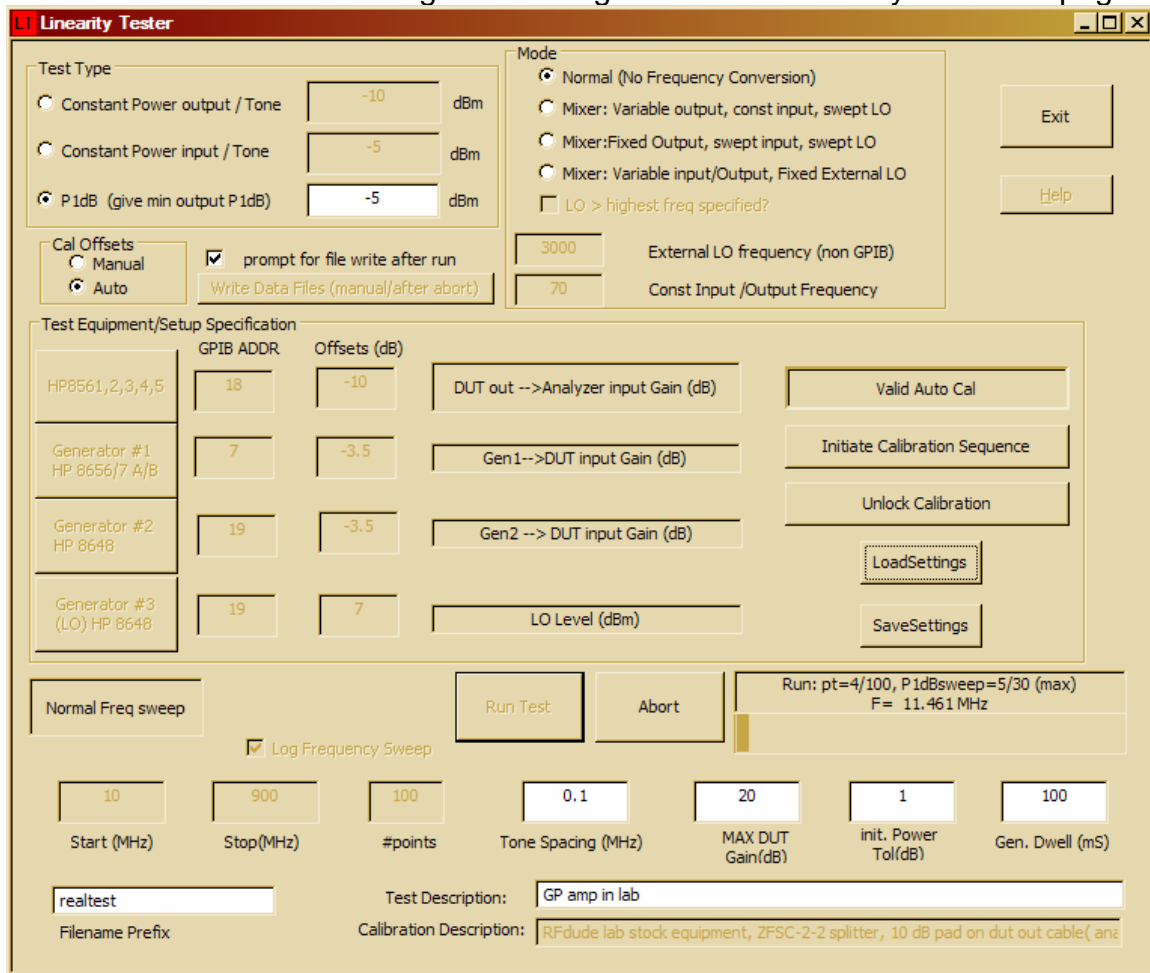
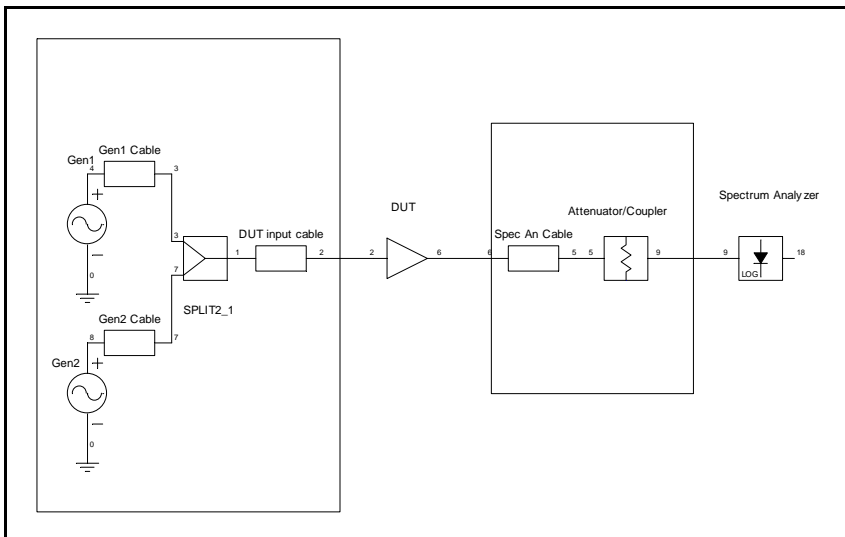

Figure 1: Main application window
Figure 2: Basic two-tone linearity test setup
We will progress from the upper left of the program window (See Figure 1) across and then down through the settings like text is normally read on a page.
5. Set the offsets. See Figure 2 for a typical setup. The Cal offsets represent the items in the boxes. I recommend using an attenuator at the spectrum analyzer input if you are measuring a device capable of damaging the spectrum analyzer. If you had a 10 dB pad installed at the analyzer input you would put "-10" in the box under "Offsets" in the same row with the spectrum analyzer settings Figure 1. I typically use a mini-circuits ZFSC-2-5 power splitter/combiner in my setup and the "gain" of this from each generator to the DUT input is typically -3 to -4 dB. For future use: note that when using an automatic calibration these values need to be entered as the nominal values for the setup – the "automatic" calibration starts with these as guesses and moves on from there, correcting the actual values at each frequency. If you do not tell the software that you had put a 20 dB pad inline and tried to do the 2nd step of the calibration, it will fail (and you might not know that until later). This will be described in more detail later.
Also realize that some features of the main program window (Figure 1) change as buttons are clicked, i.e. in the case of the mixer modes various parameters are locked out, and description text changes (such as the text next to the frequency sweep parameters).